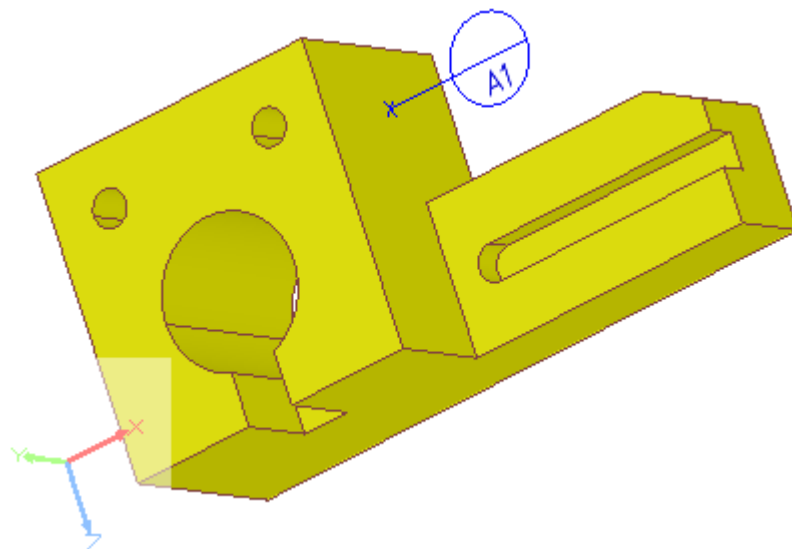

Figure 1. Datum target point with leader line and symbol
-  **Point Datum Target** - to open the Create Target Point Wizard. The Figure 1 displays, how the created datum target (point) is presented on the geometry model in the  **3D View**.